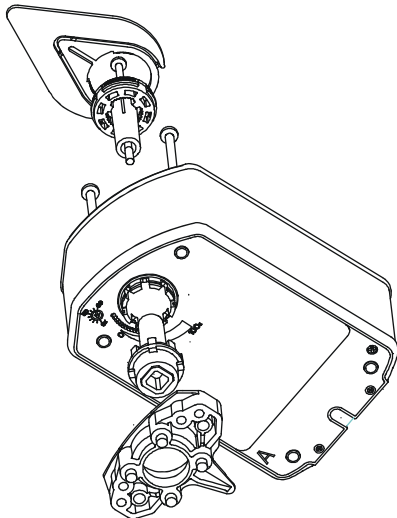

Figure 5: Removing the Linkage
3. Remove the linkage from Side A (Figure 5).
The -A models include two integral auxiliary switches with a switch adjuster accessible on either face of the actuator (Figure 5). The factory setting for Auxiliary Switch No. 1 is 83% closing, and the nominal setting for Auxiliary Switch No. 2 is 10% opening (relative to the 0 to 100% rotation range as printed on the product label). See the Technical Specifications table for the auxiliary switch ratings.